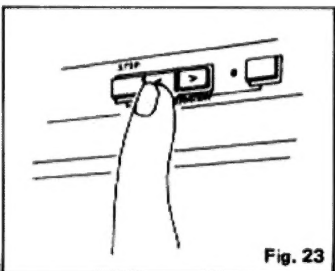

Fig. 23
4. Press the "<" (left) tonearm transport button until the tonearm is at the desired position, release it and tonearm travel stops. (Fig. 23)